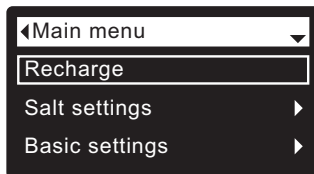
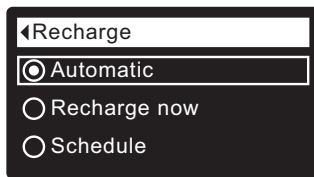
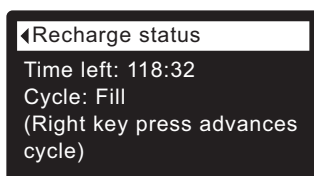

FIG. 47
FIG. 48
FIG. 49
2. Make sure **Recharge** is highlighted (See Figure 47).
3. Press the SELECT (O) button to display the Recharge menu (See Figure 48).
4. If the desired option already has a dot next to it (See Figure 48), go to Step 5. Otherwise, press the DOWN (▼) or UP (▲) buttons to scroll to the desired option, then press SELECT (O) to choose it.
- **Recharge now** begins a recharge immediately after the SELECT (O) button is pushed again in Step 5.
5. Press the SELECT (O) button. If **Recharge now** is selected, the display immediately goes to the Recharge status screen (See Figure 49). If **Automatic** or **Schedule** are selected, the display goes back to the Main menu (Figure 47).